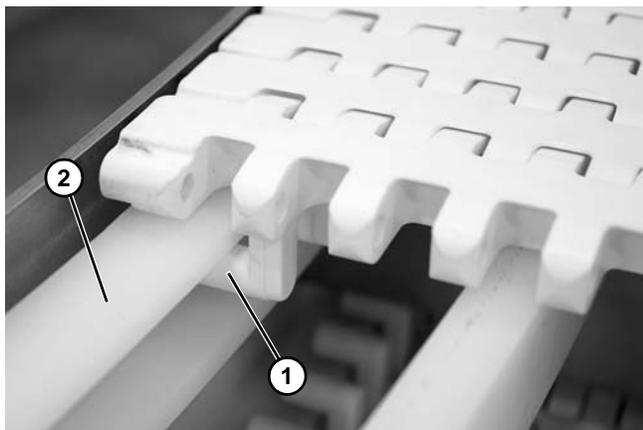
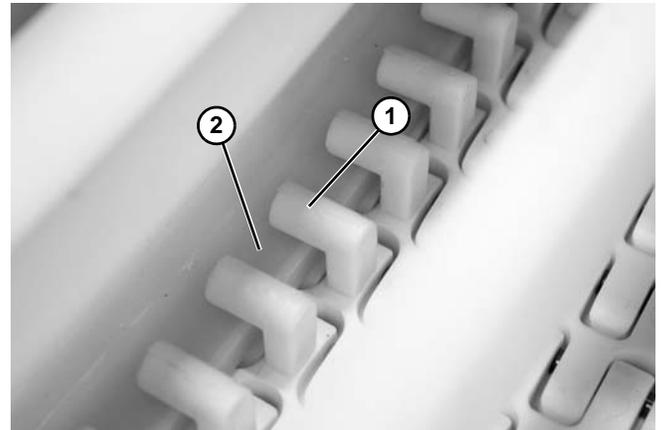

Figure 11
Figure 12
4. Feed the ends of the belt through the top and bottom of the curved frame sections. Make sure the belt tabs (**Figure 11, item 1**) and (**Figure 12, item 1**) are properly engaged with the wearstrips (**Figure 11, item 2**) and (**Figure 12, item 2**).